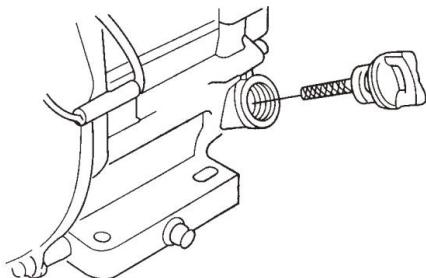

FIG.2
- 7.2.2 Remove the filler dipstick from the engine oil filler hole (FIG. 2) and wipe it clean.